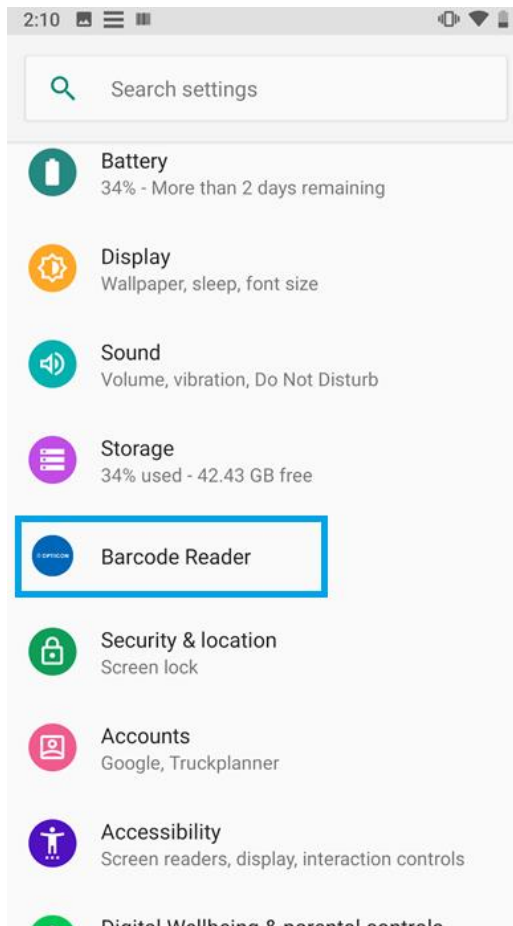

Figure 12-1: At the Android settings of the H-31 and H-33, navigate to the *Barcode Reader* settings page.
1. On your H-31 or H-33 handheld terminal, open the settings menu, scroll down, and select **Barcode Reader** as shown in Figure 12-1.